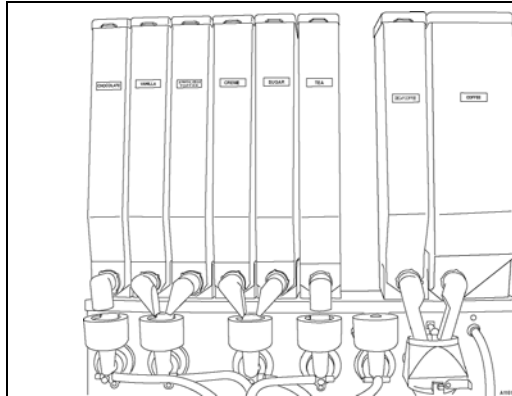
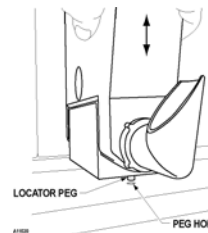
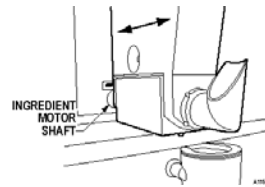

Figure 5a. Canister Lineup
Figure 5c. Locator Peg
Figure 5d. Motor Shaft
4. When filling the canisters, hold the top and bottom of the canister and slowly lift it up so that the locator peg clears the peg hole. **Figure 5c**. Slide the canister forward until it is out of the ingredient motor shaft. **Figure 5d**.
10. Review the canister arrangement as shown in **Figure 5a**. Hold the canister carefully at the bottom and top to prevent spilling. Gently place the filled canister back on the product shelf. **Figure 5d**.
11. Line up the hollow shaft in the back of the canister with the ingredient motor shaft. See **Figure 5d**.
12. Slowly slide the canister toward and over motor shaft until locator peg falls inside the hole on the product shelf. See **Figure 5c**.